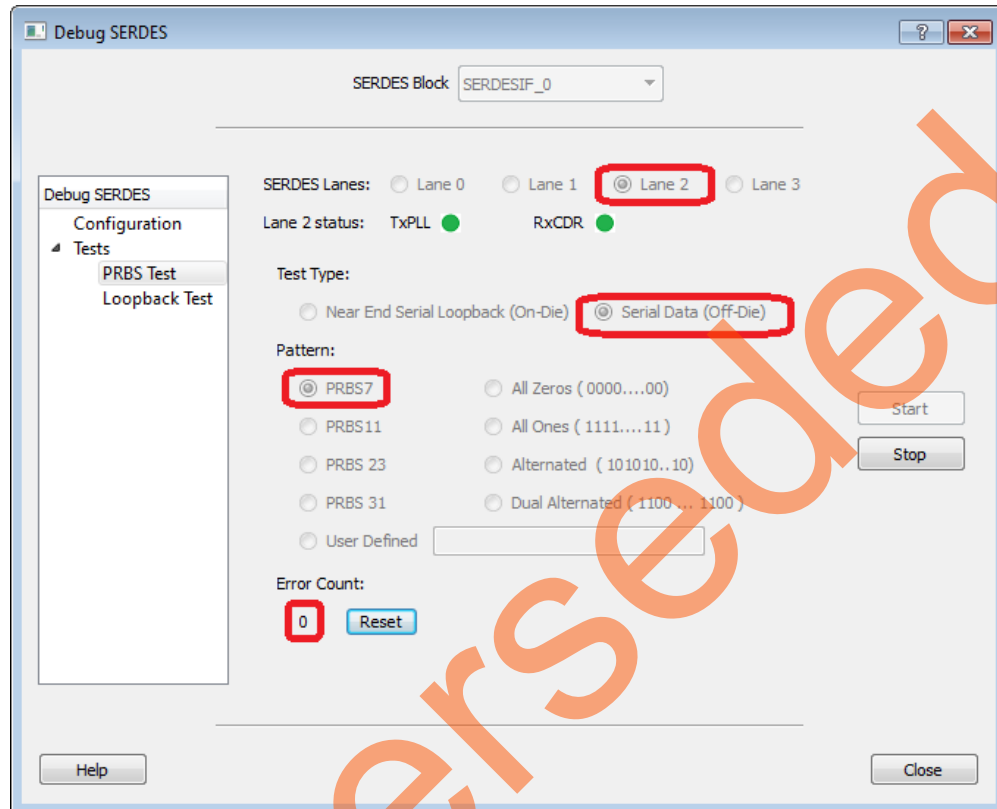
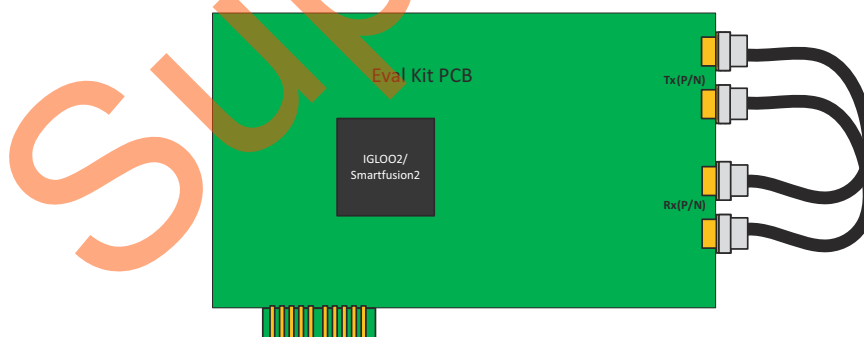

Figure 2-25 • External Cable Loopback
Figure 2-26 • Evaluation Kit Board with External Coax Loopback Setup
6. The Tx and Rx channels of Lane 2 can be interconnected in a loop-back configuration using coax cables. In this example, as shown in Figure 2-25 and Figure 2-26, after connecting a pair of high-quality 50-Ohm SMA cables to the SMA connections on the Evaluation Kit board, the SERDES debug can be used to send data off-board and check for errors. This requires selection of Lane 2 and Serial Data (Off-Die). A PRBS7 pattern is chosen in the example test.